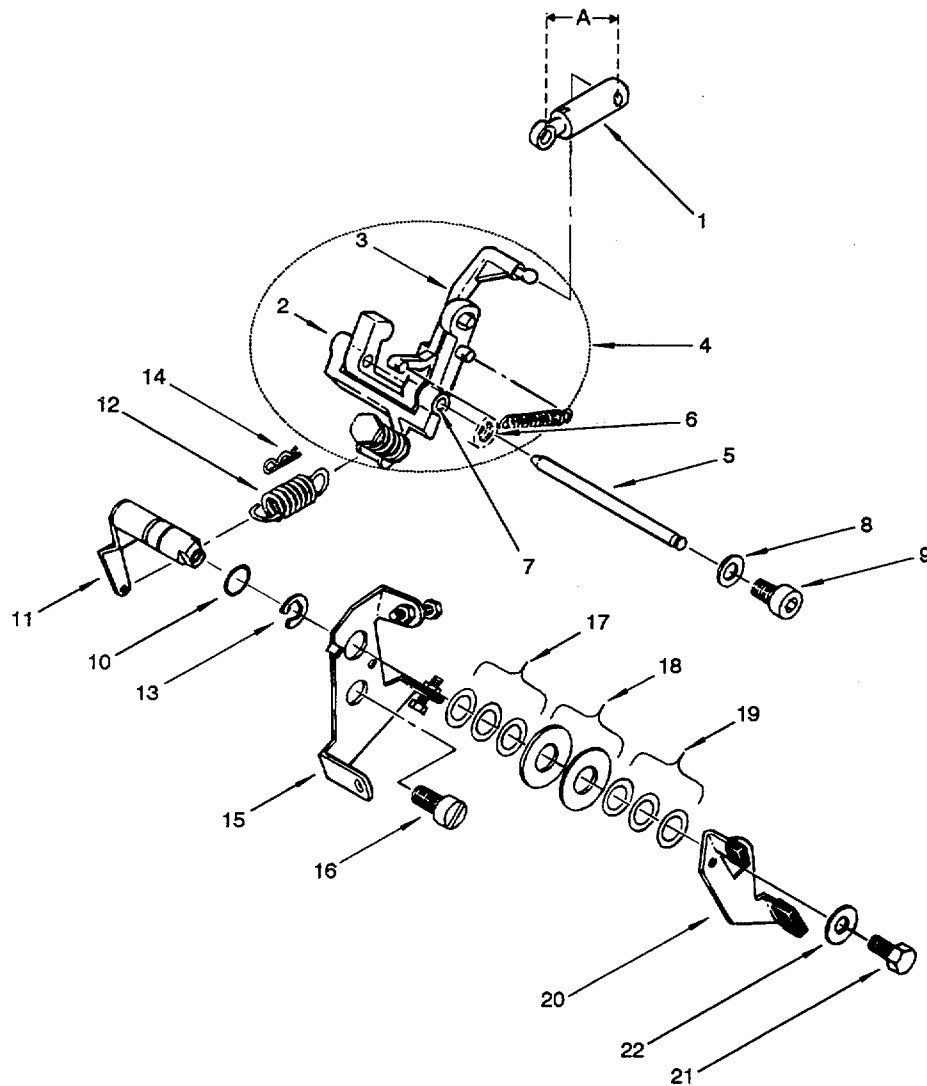

Figure 6-31. Governor and Speed Control Installation
Refer to figure 6-31.
- g. Install inside speed control lever (11, figure 6-31) from inside crankcase. On outside of crankcase install retaining clip (13) on inside speed control lever (11).